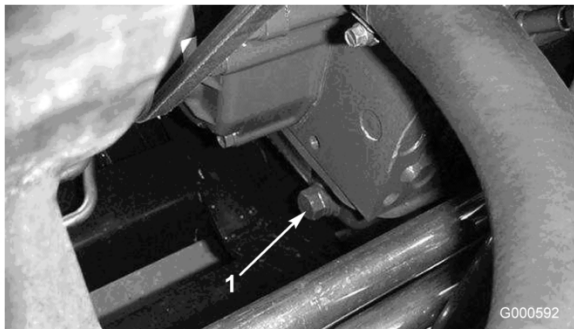

Figure 34
1. Remove the rear drain plug (Figure 34) and let the oil flow into a drain pan. When the oil stops, install the drain plug.